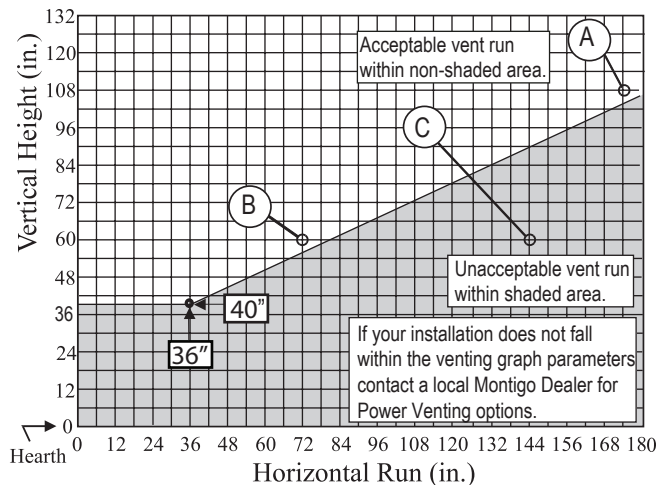

Figure 13. L52DF* Top Vent Venting Graph for wall mounted terminations.
- Once the proposed venting layout has been determined refer to Figure 13 or 15 to ensure the layout is acceptable.
- Venting runs must fall within the limits set by the venting graph, see Figure 13.
Measure the vertical height from the fireplace hearth to the centre of the termination and the horizontal run from the fireplace flue collar to the wall flange of the termination. Plot on the Venting Graph Figure 13 with an 'X'.
Figure 13a. Top Vented, wall mounted installation with one 90° bend. The vent run must comply with Venting Graph for Top vent, wall mounted terminations, Figure 13.